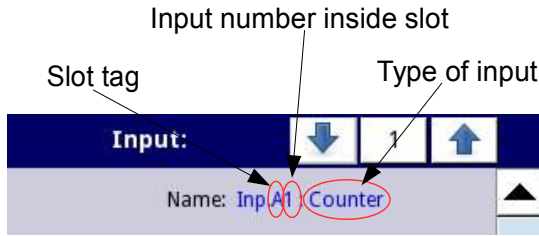

Fig. 7.75. Description of **Name** parameter in **Built-in inputs** menu
Common parameter for all **Built-in inputs** is **Name** – each inputs has its own unique name and it can not be changed – description of this parameter see **Fig. 7.75**.
- **Name** - each built-in input already has a name given by the device and user cannot change it, description of the **Name** parameter see **Fig. 7.75**,
- **Name** – each built-in input already has a name given by the device and user cannot change it, for description of **Name** parameter see **Fig. 7.75**,
- **Name** – each built-in input already has a name given by the device and user cannot change it, for description of **Name** parameter see **Fig. 7.75**.